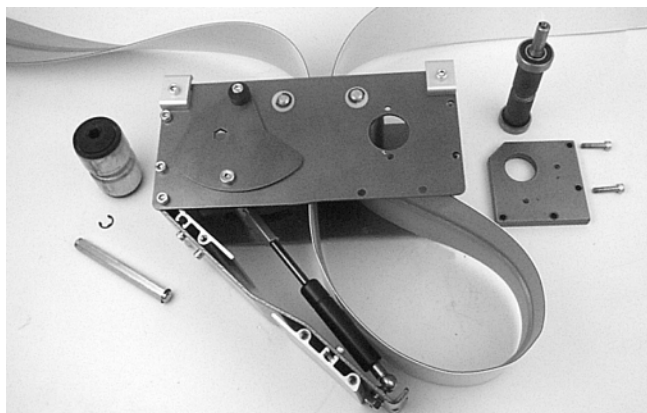

Figure 33
2. Place loop of belt into module (Figure 33).